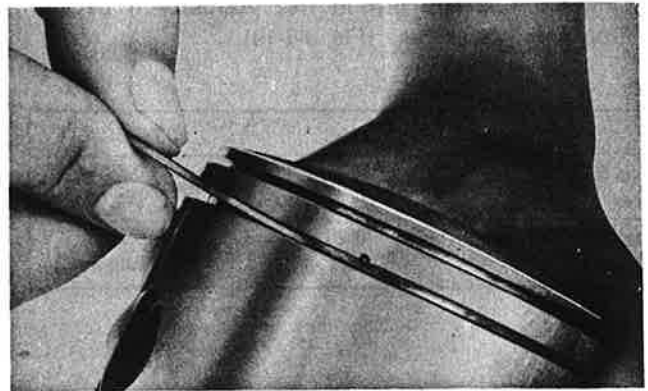

Fig. 3-3-15
- 3. Remove carbon deposits from ring grooves. (Fig. 3-3-15)**